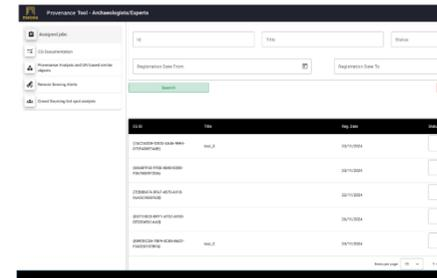

Figure 8: Assigned jobs expert screen.
2. Click on “Assigned Jobs” in the left-side menu to view a list of CGs assigned by LEA officers, as shown in *Figure 8*.